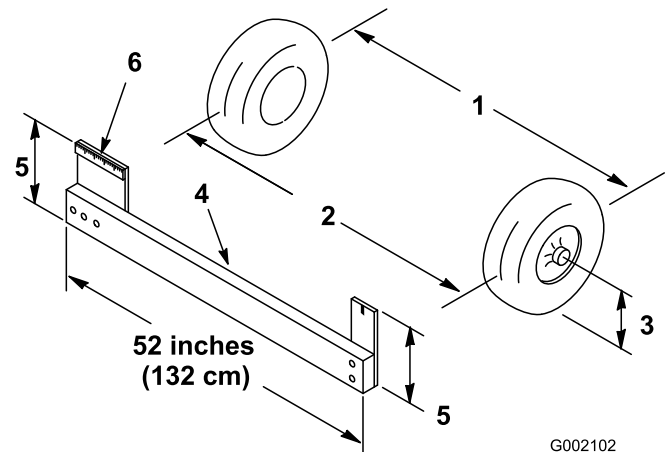

Figure 29
2. Measure the distance between both of the front tires at the axle height at both the front and rear of the front tires (Figure 29). A fixture or alignment gauge is needed for the rear measurement of the front tires at axle height. Use the same fixture or alignment gauge to accurately measure the front of the front tires at axle height (Figure 29).